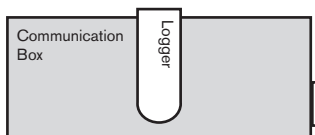

Figure 3.4 How to insert the logger into the Communication Box
2. **Green (DST COM)** – shows that the logger is connected and correctly placed in the communication box (Figure 3.4). The green light will not turn on unless red and yellow lights are on.